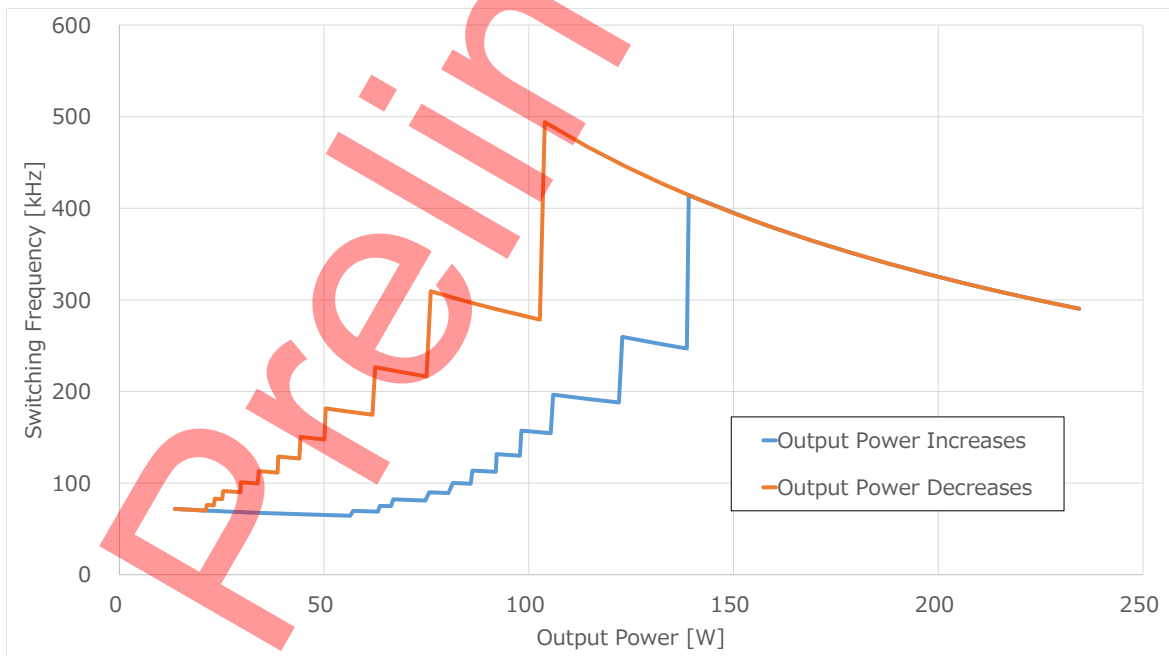

Figure 10. The Example of The Relationship between Output Power and Switching Frequency
- E: The number of resonances at half bridge node is counted N_{BOTTOM} times. As an example, the case where N_{BOTTOM} is three is shown in figure 10.
In bottom skip mode, bottom number N_{BOTTOM} is determined by the FB pin voltage. The FB pin threshold voltage of bottom number differs when the FB pin voltage rises (output power increases) and when the FB pin voltage falls (output power decreases). If the switching frequency exceeds f_{SWMIN} , the PWMH pin is forced to output turn ON signal at the next bottom even if the bottom number is not detected N_{BOTTOM} times. The relationship between FB pin voltage and bottom number is shown in table 2. Also, the example of the relationship between output power and switching frequency is shown in figure 10. Bottom number 1 is ZVS mode.